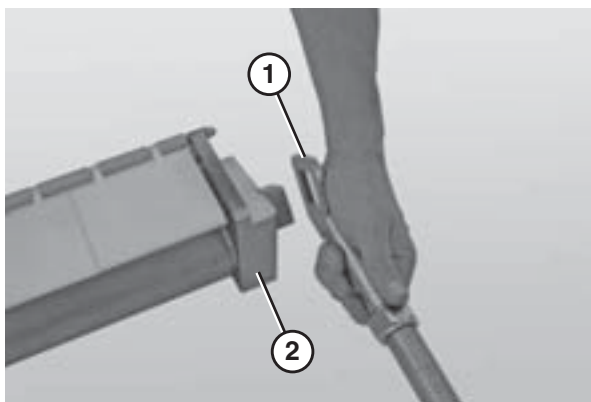

Figure 75
3. Slide the nose bar shafts (Figure 75, item 1) off of the nose bar weldment (Figure 75, item 2).